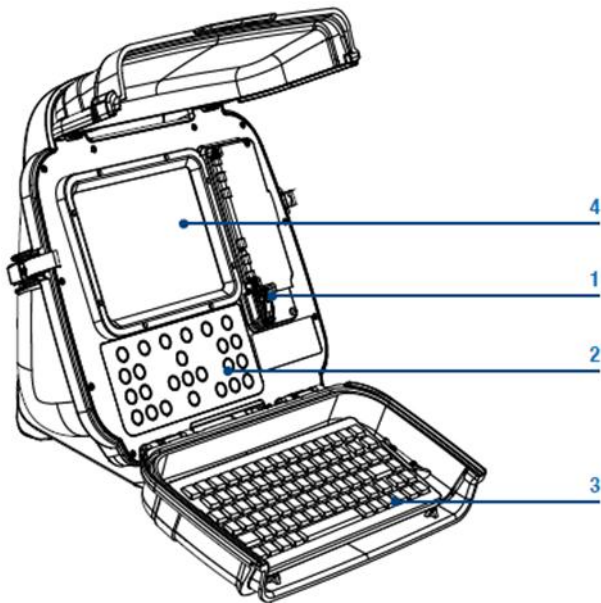

Figure 2.1: Controller Module
See Figures 2.1 to 2.3
- Ensure the **On/off switch** (item 1 in Figure 2.1) is set to the Off position.